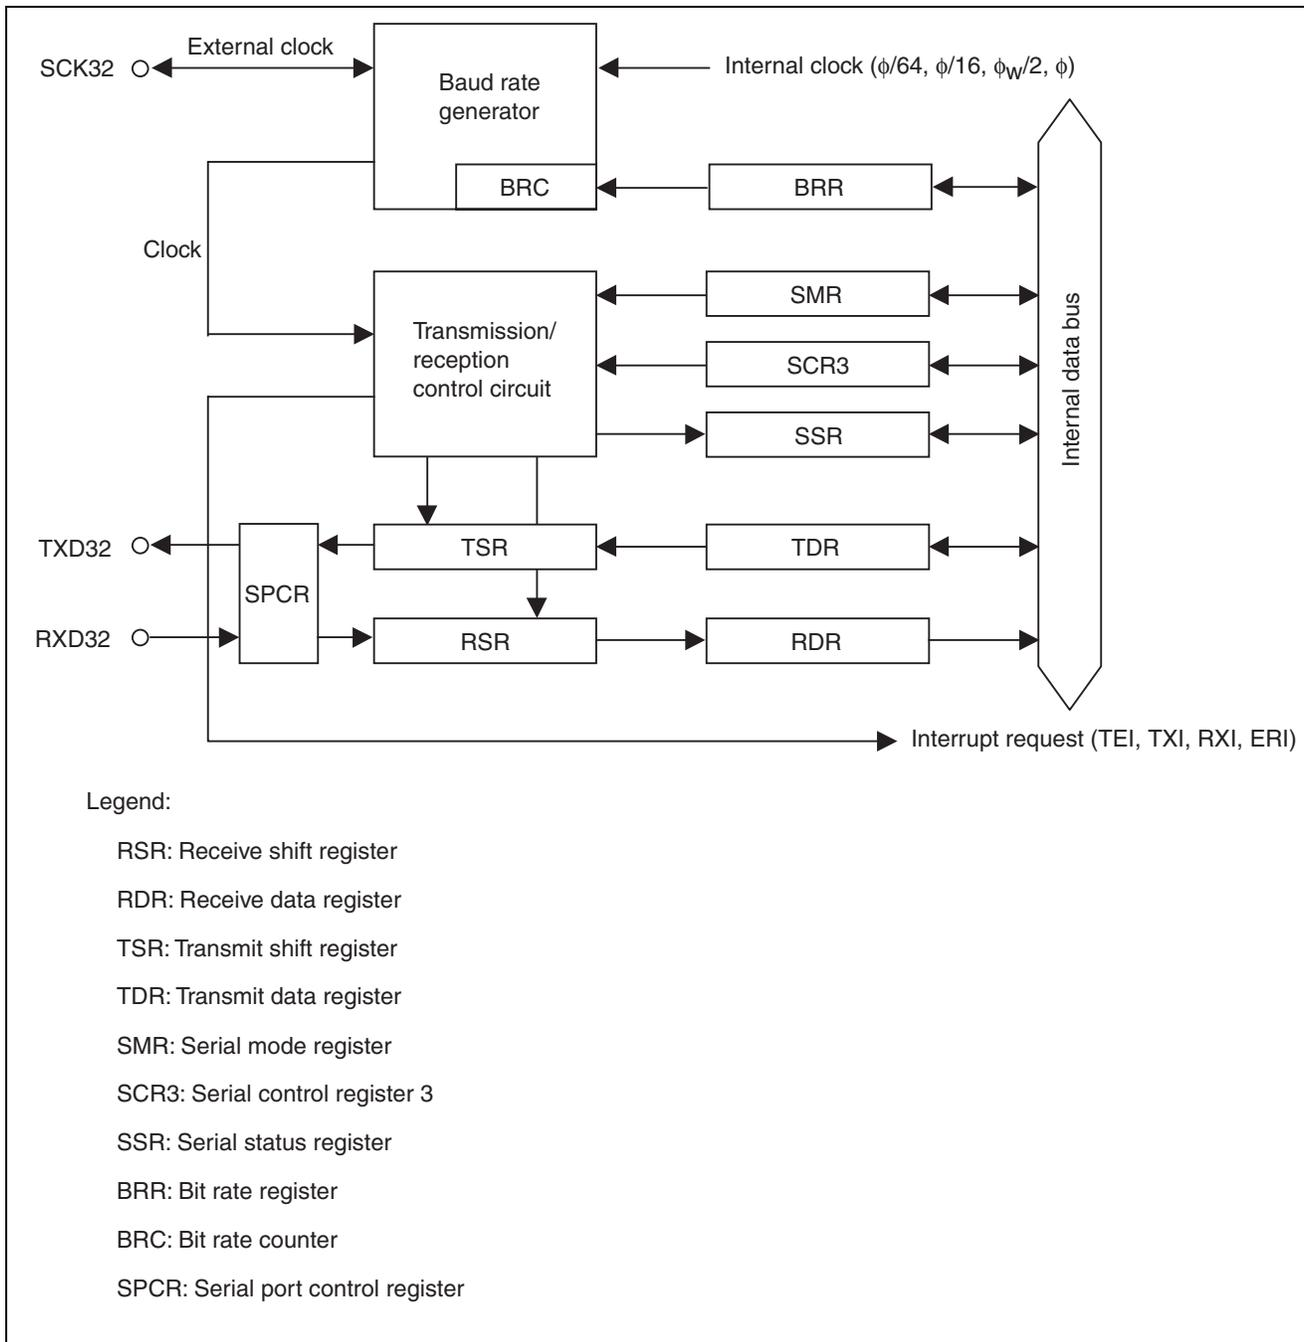

Figure 2 Block Diagram of SCI3
- In this sample task, clock synchronization serial data master reception is performed using Serial Communication Interface 3 (SCI3). A block diagram of SCI3 is shown in Figure 2 and the functions are described below the figure.